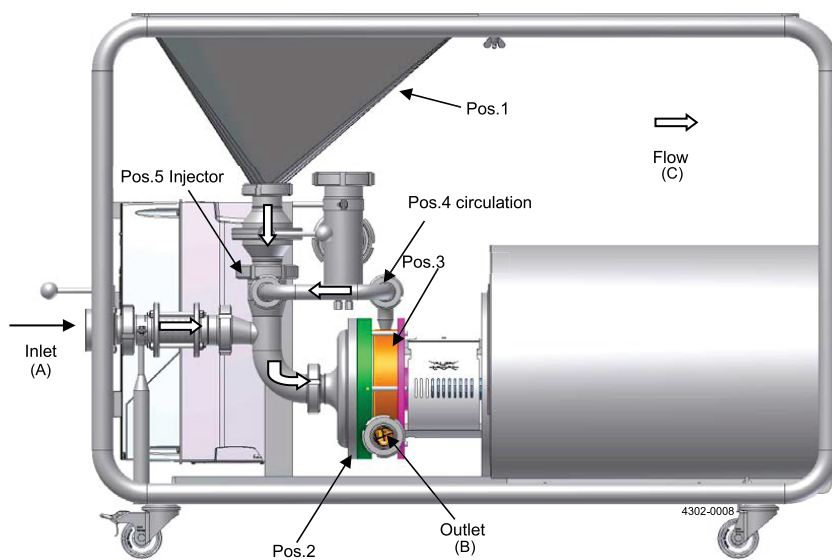
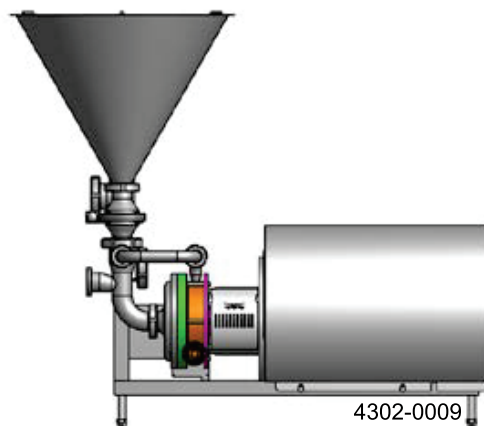

Figure 1
Figure 2
The powder to be mixed is delivered to the HPM via the funnel (item 1 in Figure 1) and homogenised or dispersed in the fluid flow with the aid of a rotor-stator system in the first stage (item 2 in Figure 1). In the second stage, the mixture is then discharged from the equipment with the aid of the impeller (item 3 in Figure 1). During this process, a product sub-flow is recirculated via a second (smaller) connection (item 4 in Figure 1). This sub-flow is introduced into the injector (item 5 in Figure 1). This generates a negative pressure at the funnel outlet, which in turn allows the powder to be drawn in. NOTE: The function is the same on the stationary HPM S15 version shown on figure 2.